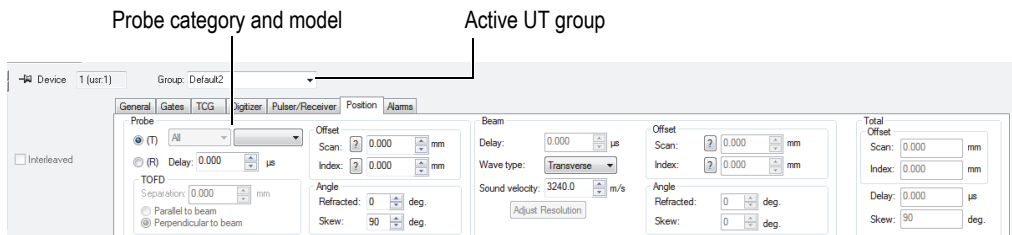

Figure 4-25 Selecting the probe in the UT Settings dialog box
3. In the **UT Settings** dialog box, select the probe category and model (Figure 4-25 on page 121).